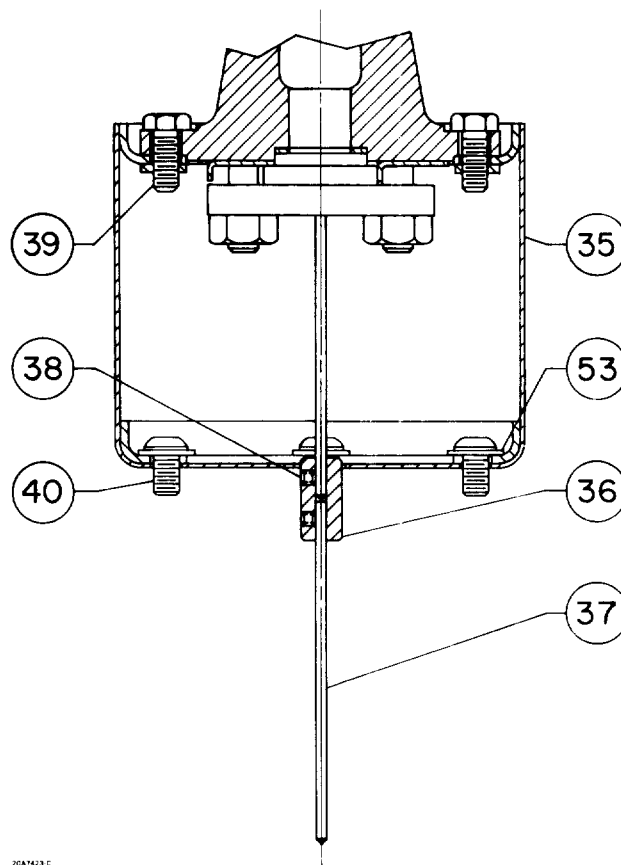

Figure 15. Heat Insulator
3. Remove any insulating tape from the joint between the controller/transmitter case and the torque tube arm. Remove the four cap screws (key 39, figure 15) that hold the controller/transmitter or heat insulator to the torque tube arm. Pull the case straight out from the torque tube arm, easing it over the shaft coupling (key 36, figure 15) if one is installed.
Perform the following step only if it is necessary to remove a heat insulator from the controller/transmitter case. Key numbers in this step are shown in figure 15.
Perform step 1 only if adding a heat insulator to a unit that does not have one. Key numbers in this step are shown in figure 15.
2. Carefully slide the controller/transmitter case straight in, easing the attached heat insulator over the shaft coupling (key 36, figure 15) if necessary. Secure the case or insulator to the torque arm with the four cap screws (key 29, figure 15).
PARTS LIST**Heat Insulator (figure 15)**